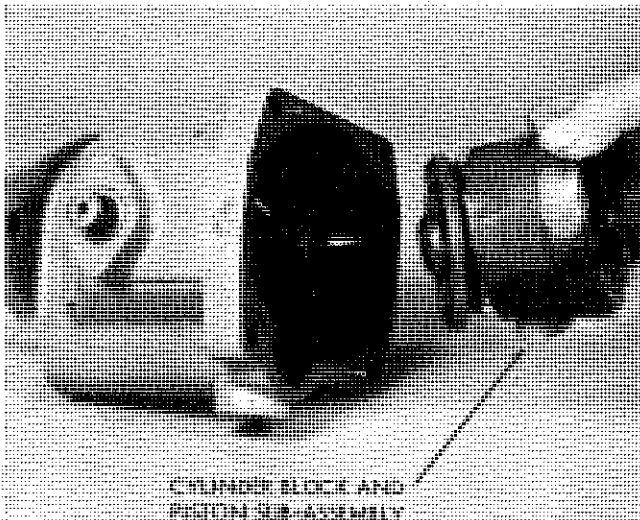

Figure VI-16. Disassembly of Rotating Group Assembly
9. Removal of Rotating Group Assembly (Figure VI-16)